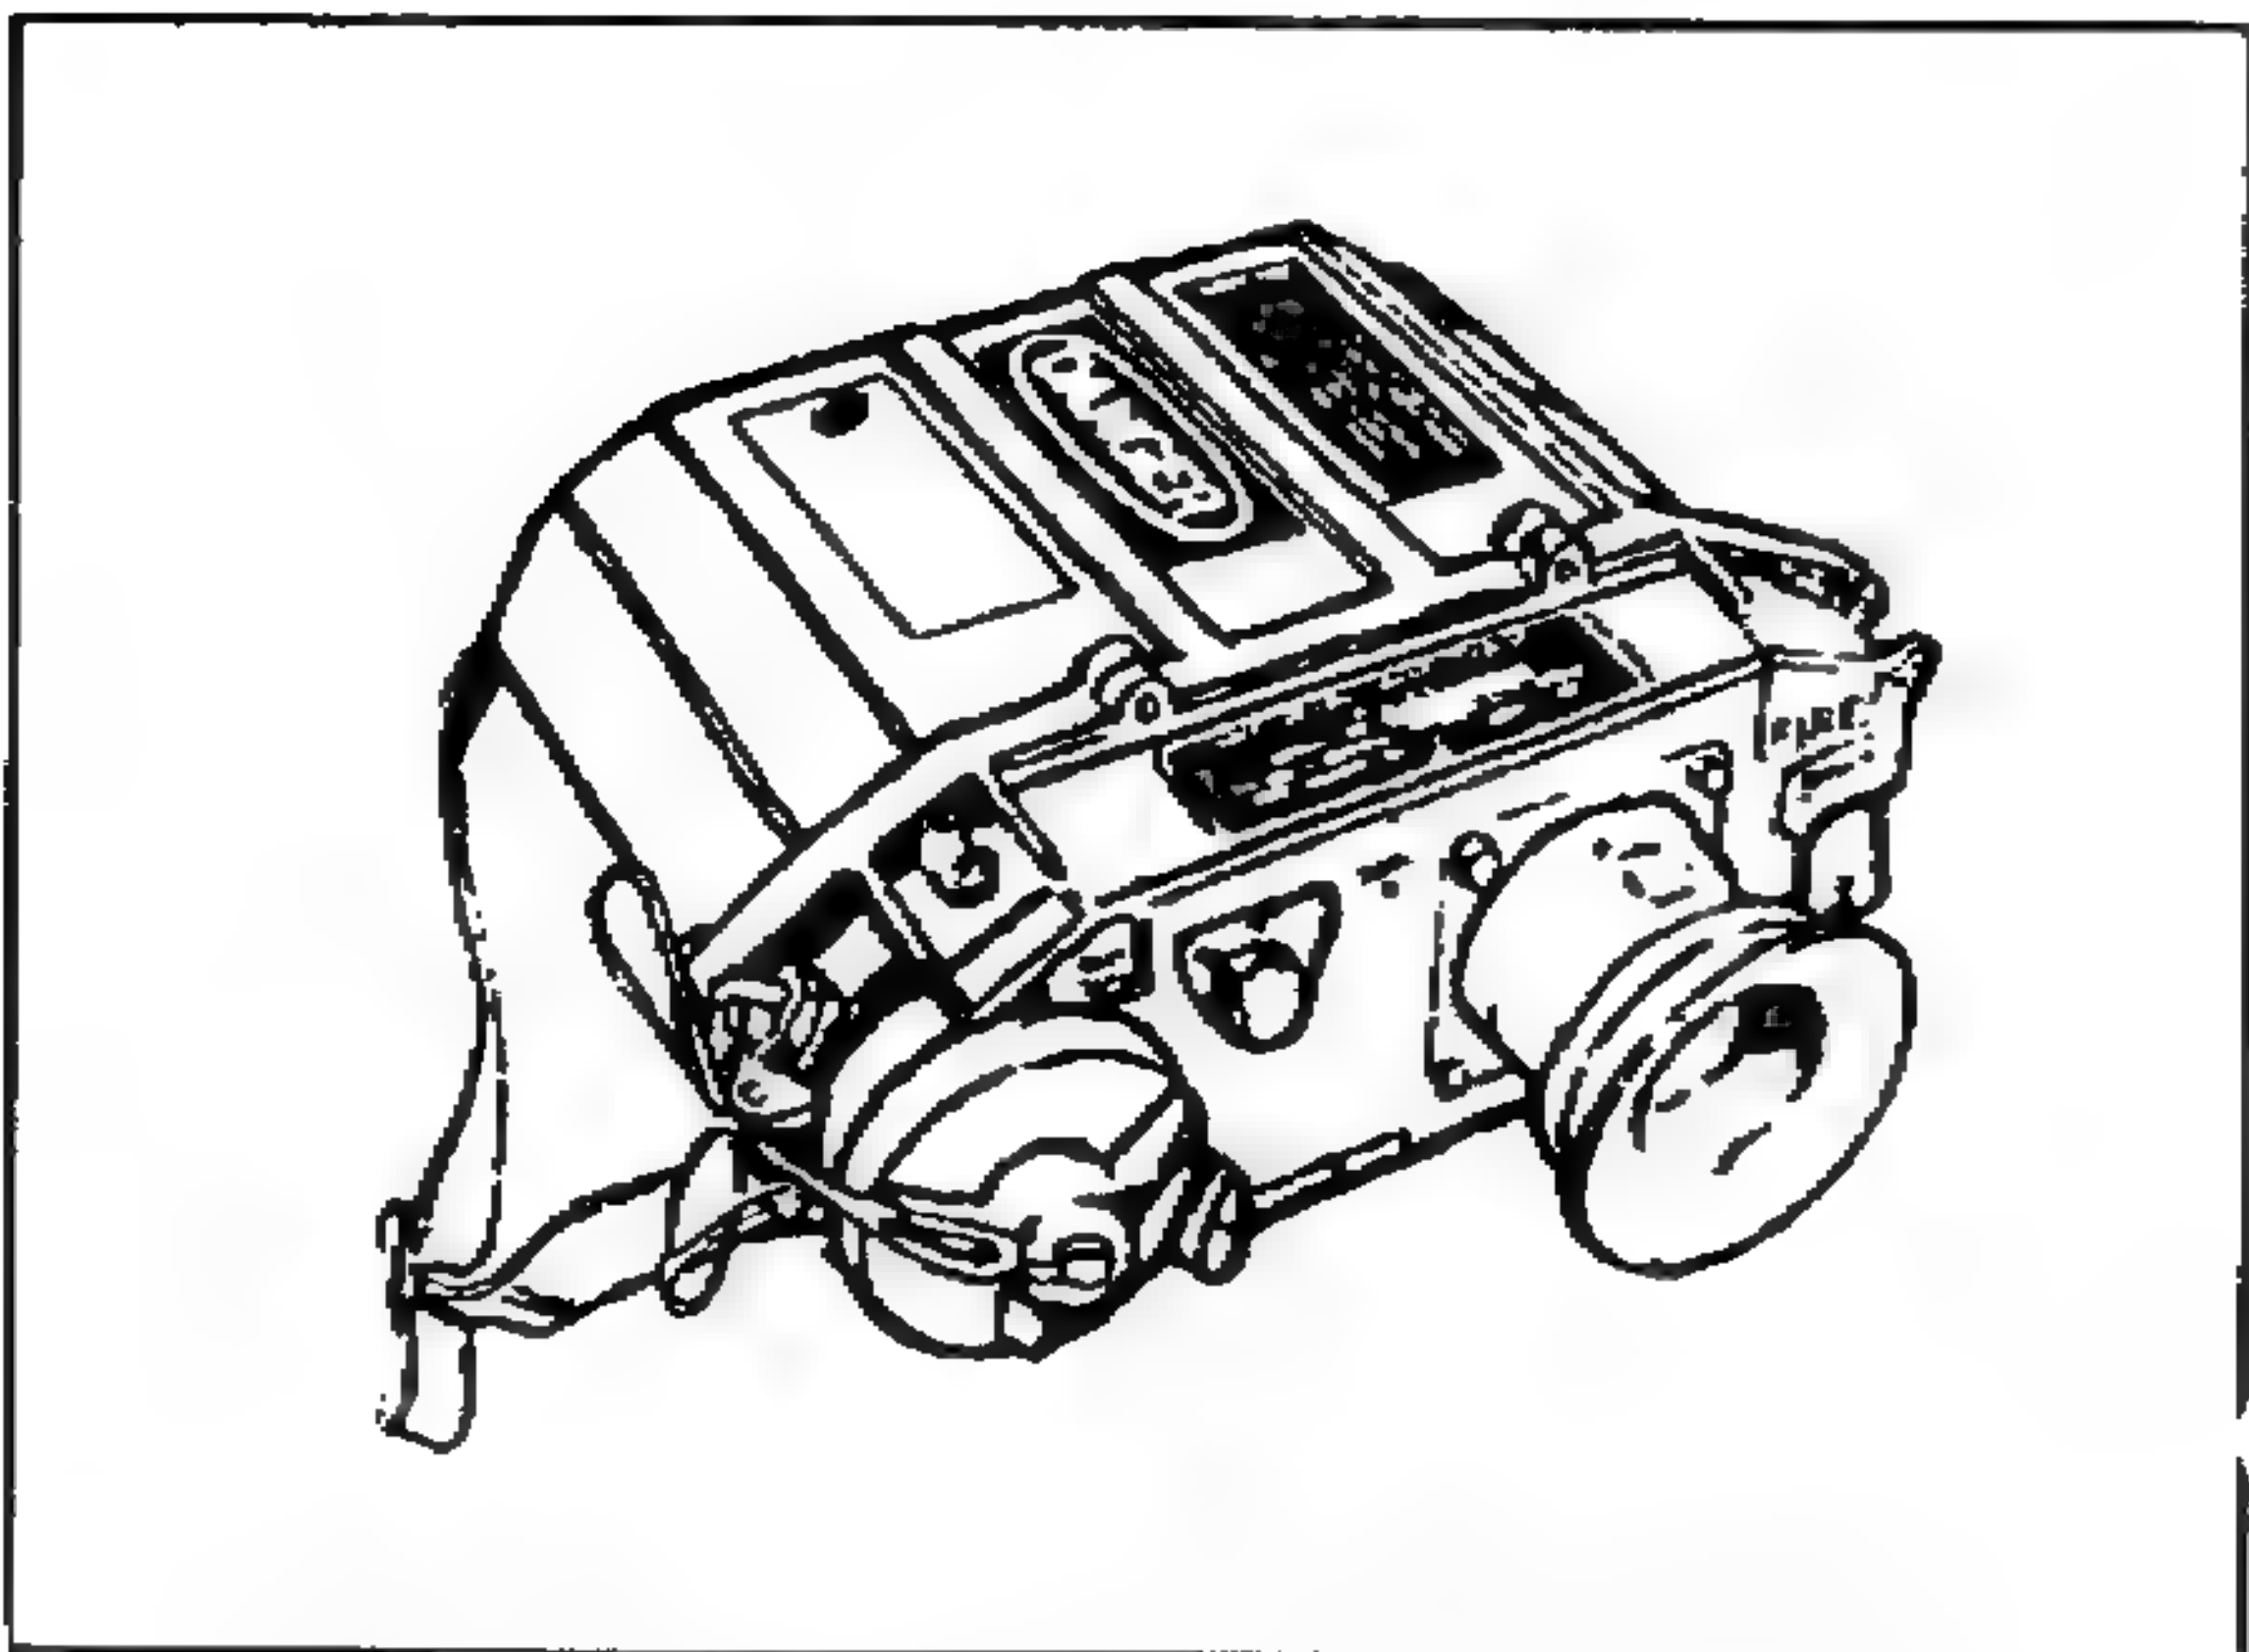

Figure 2-29. Laser observation set, AN/GVS-5.
d. **Laser Observation Set, AN/GVS-5.** Depending on the mission, snipers can use the AN/GVS-5 to determine the range to the target. The AN/GVS-5 (LR) (Figure 2-29, page 2-36) is an individually operated, hand-held, distance-measuring device designed for distances from 200 to 9,990 meters (with an error of plus or minus 10 meters). It measures distances by firing an infrared beam at a target and by measuring the time the reflected beam takes to return to the operator. It then displays the target distance, in meters, inside the viewer. The reticle pattern in the viewer is graduated in 10-mil increments and has display lights to indicate low battery and multiple target hits. If the beam hits more than one target, the display gives a reading of the closest target hit. The beam that is fired from the set poses a safety hazard; therefore, snipers planning to use this equipment should be thoroughly trained in its safe operation. (See TM 11-5860-201-10.)